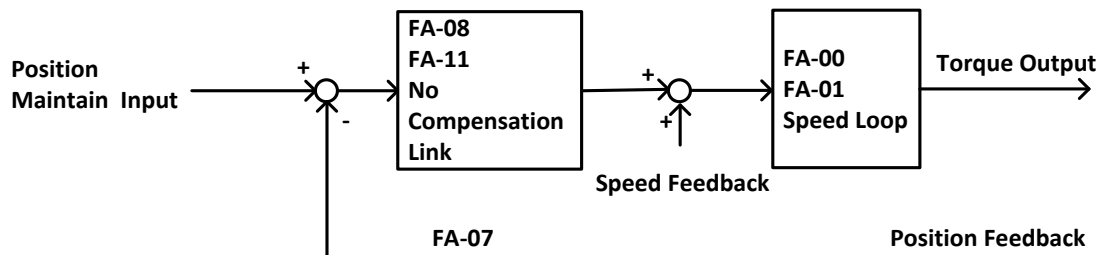

FIGURE 6.16 FLOWCHART FOR ELEVATOR STARTING WITHOUT LOAD COMPENSATION
- 1) Principles; As can be seen in Figure 6.16 below, when brake open, based on the position feedback from Sine/Cosine PG card, system can calculate the necessary torque required for motor to remain the steady position under current load, and it gives corresponded torque at once to minimize the traction sheave movement and to achieve comfortable start.